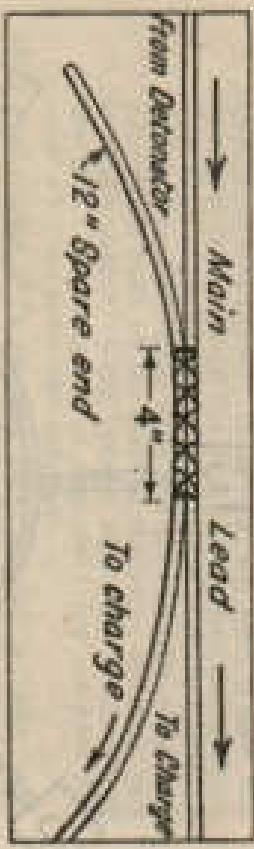

FIG. 11. Initiation of cordtex (using 2 detonators to minimise risk of failure).
Lash the detonators firmly to the fuse as shown in Fig. 11. See that the detonators are in good contact with each other as well as with the detonating fuse. It is particularly important that the closed ends of the detonators are lashed on to good contact with the fuse. The smallest gap may well cause failure. In emergency one detonator and safety fuse may be used. Where the detonating fuse is suspected
(b) Initiation.—Cordtex can be initiated by one detonator, but for the reasons given in para 4 (c) above two detonators should normally be used, each with its own safety fuse. Lash the detonators firmly to the fuse as shown in Fig. 11. See that the detonators are in good contact with each other as well as with the detonating fuse. It is particularly important that the closed ends of the detonators are lashed on to good contact with the fuse. The smallest gap may well cause failure. In emergency one detonator and safety fuse may be used. Where the detonating fuse is suspected
2. **Initiation.**—Use an improvised initiating set composed of 1 ft. of detonating fuse fired by two detonator assemblies with detonator, safety fuse and igniter (see FIG. 11). Make these sets up previously with sealing tubes at both ends of the detonating fuse. In the 2-in-torpedo Mk. I a primer is required; this fits into a recess at the main end of the tube. In the 1½-in torpedo a special primer is already in position; it contains a base for the detonating fuse.